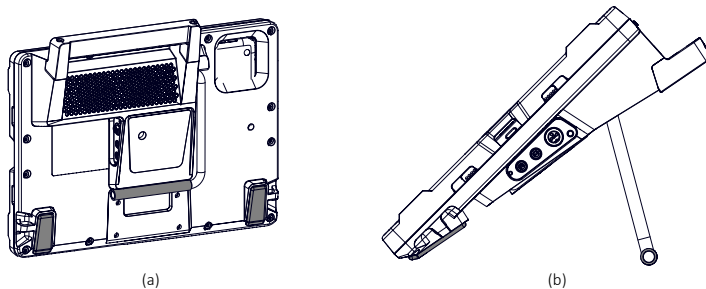

Figure 4.5 Standing (a) contact points (Kickstand ⑲ and Rubber Feet ⑳), and (b) angle of use 35°-45°
With its kickstand ⑲ the Rehadapter™ can stand up on a flat surface at a variable angle from 35° to 45°, as shown on **Fig. 4.5**. The rubber feet and kickstand ensure slip resistance.